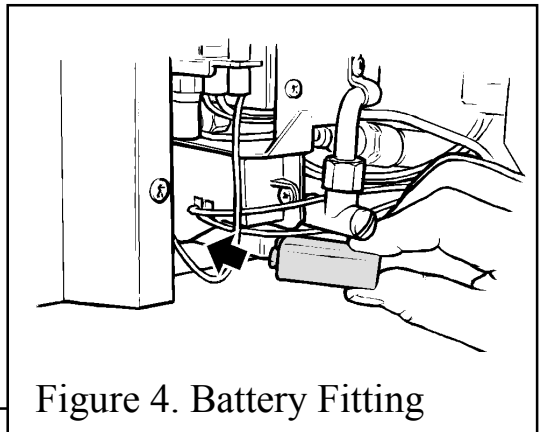

Figure 4. Battery Fitting
- Fit the battery to the ignition block located below the burner tray at the left side (see figure 4). The positive terminal (+) is to the right as you insert.